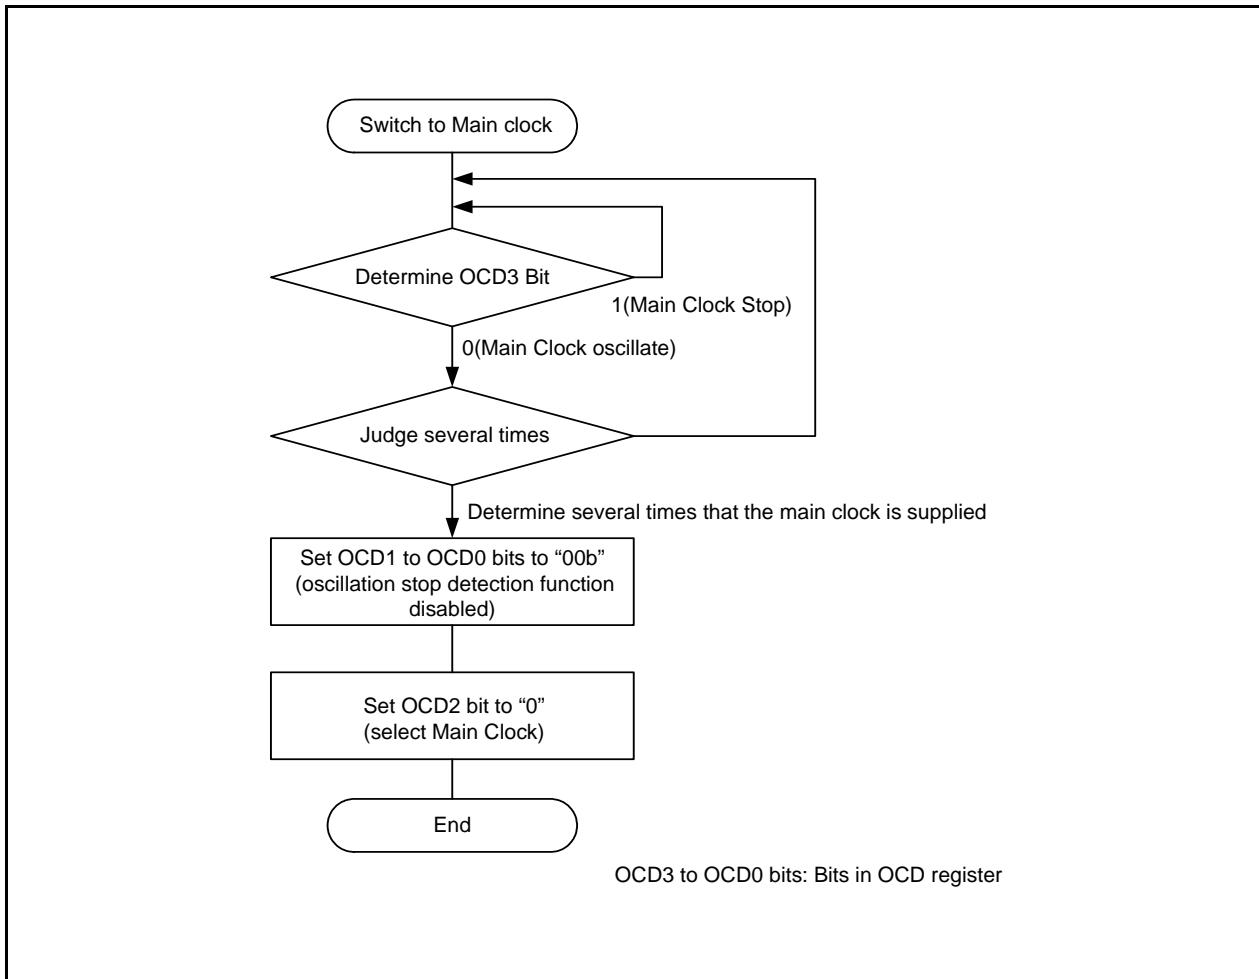

Figure 9.9 Procedure of Switching Clock Source From Low-Speed On-Chip Oscillator to Main Clock
- Figure 9.9 shows the Procedure of Switching Clock Source From Low-Speed On-Chip Oscillator to Main Clock.